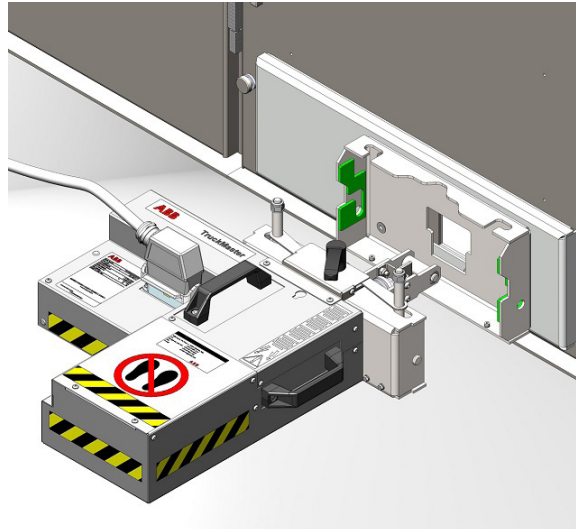

Fig. 11
##### 4.6.2.2 Portable driver installation: fig. 11
5. Slide the portable unit towards the door panel until it stops, then slide the portable unit down until it reaches the mechanical stop (fig. 11).